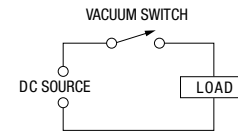

Figure 3 — No Arc Suppression
1. Vacuum switches are rated up to 20 amps at 30 kV DC and 10 amps at up to 50 kV DC resistive loads without arc suppression. (See Figure 3.)